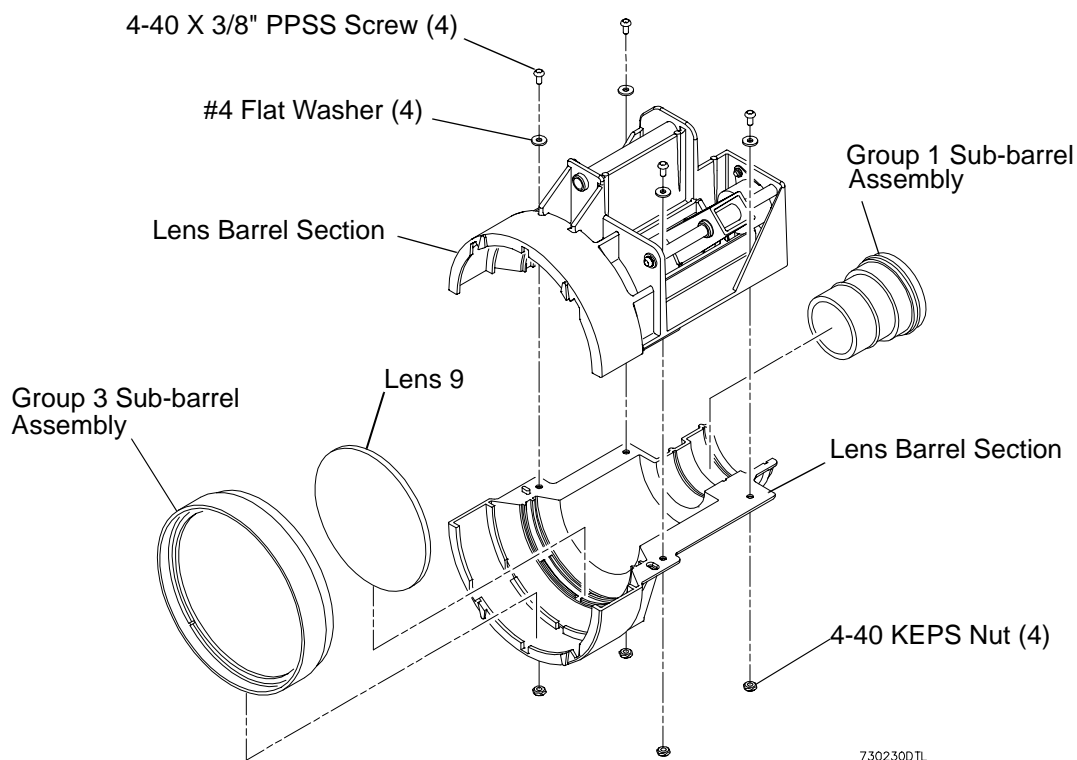

Figure 2-31: VL6B/VL6C Luminaire Lens Barrel Assembly Dust Prevention Modification and Cleaning
- Step 4. At lens barrel assembly, using #2 Phillips screwdriver and 1/4" nut driver, remove four 4-40 X 3/8" PPSS screws, four #4 flat washers, and four 4-40 KEPS nuts. **Figure 2-31.**